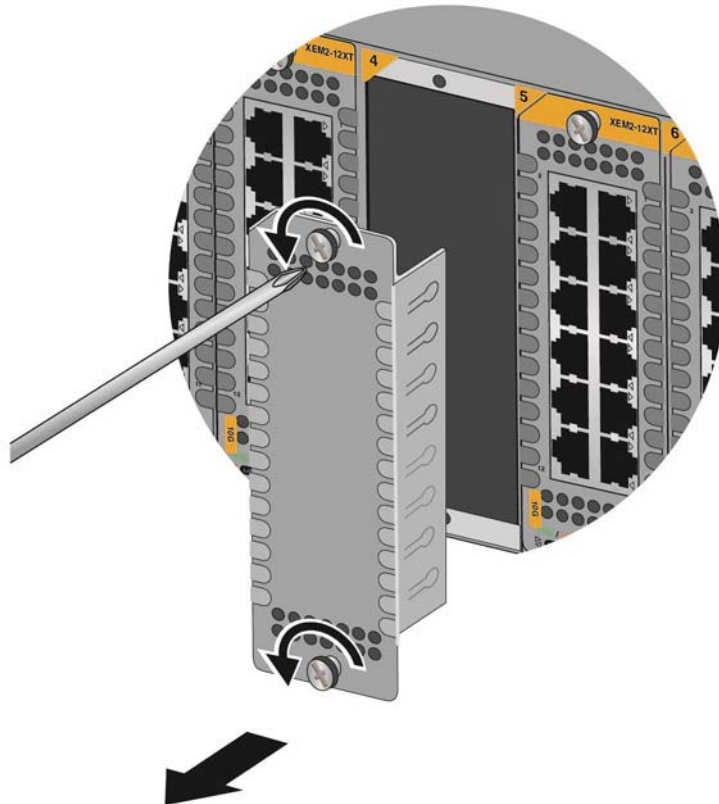

Figure 42. Removing a Blank Line Card Cover
2. If the slot is covered with a blank panel, use a #2 Phillips-head screwdriver to loosen the two captive screws on the panel and remove it from the chassis. Refer to Figure 42.